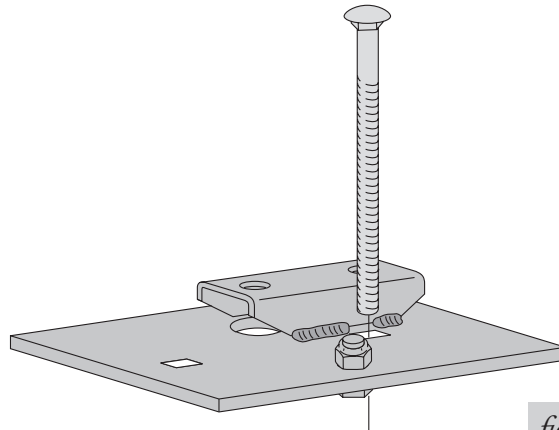

fig. 8
- After determining and installing the appropriate stackup, insert one carriage bolt (N) into the forward hole of the lower bracket (Fig. 8).